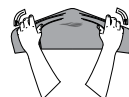

Figure 13.5c
3. Gently pull upward on pillow to release the mounting stud from receptacle on spa shell, Figure 13.5c.